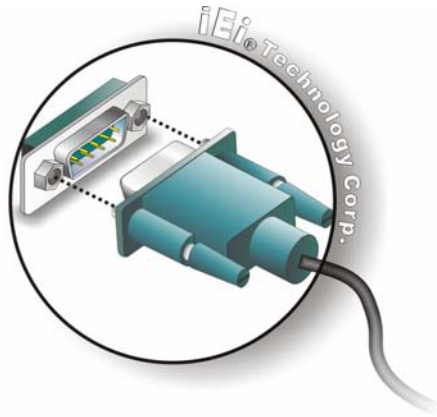

Figure 3-37: RS-232/422/485 Serial Device Connector
Step 2: **Insert the serial connector.** Insert the DB-9 connector of a serial device into the DB-9 connector on the external peripheral interface. See **Figure 3-37**.